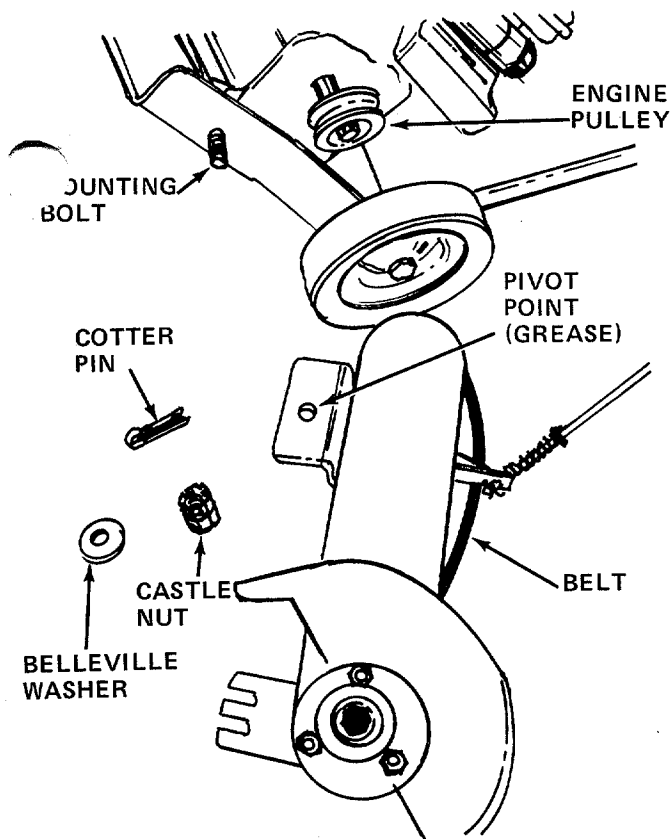

FIGURE 15
3. Lift off the hex castle nut, belleville washer and belt cover. See figure 15.
While the belt cover is removed, it is a good idea to apply a little grease to the pivot point on belt cover. See figure 15.
6. When tightening the castle nut, only tighten enough to line up hole in bolt for cotter pin. DO NOT OVERTIGHTEN. Belt cover must pivot freely. See figure 15.